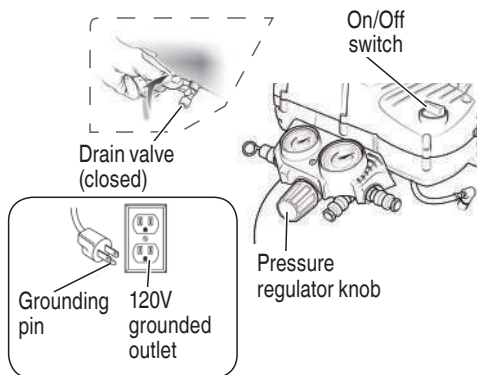

Fig. 6
- Ensure the tank drain valve is closed (Fig. 6).
- Ensure the ON/OFF switch is in the **OFF (O)** position and the air compressor is unplugged (Fig. 6).
- Ensure the pressure regulator knob is turned fully counterclockwise (Fig. 6).